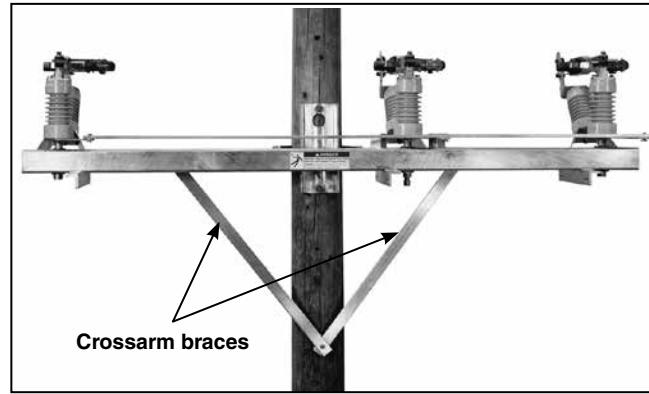

Figure 12. Attaching the crossarm braces (user-furnished) to the switch base.
STEP 10. If desired, crossarm braces (user furnished) may be attached to the switch base. See Figure 12. Refer to the erection drawing.